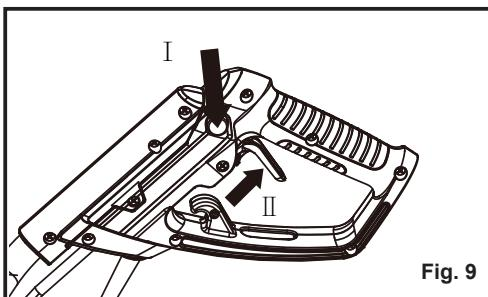

Fig. 9
7. To start the tiller, first press the safety switch and then pull the trigger lever up (Fig. 9). To stop the tiller, simply release the trigger lever.